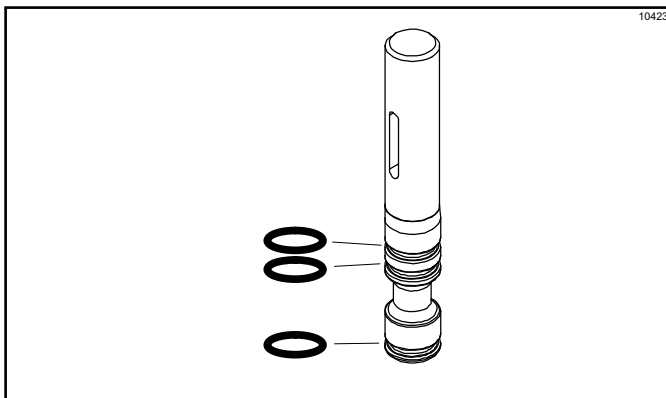

Figure 6-9
3. Slide the three O-rings into the grooves on the draw valve and lubricate. (See Figure 6-9.)